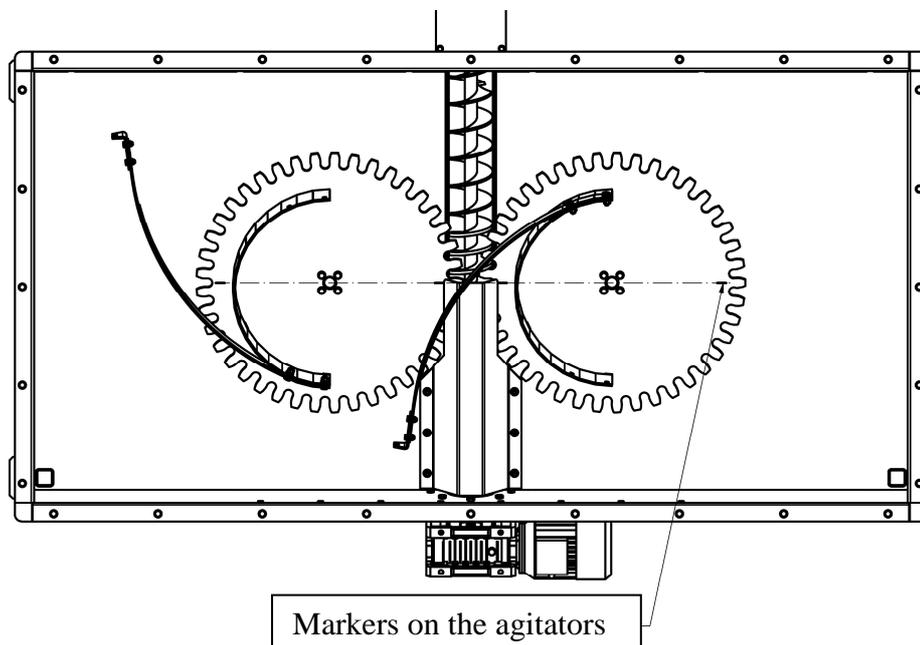

Fig. 2.1 Placement of agitators in the container, sets up to 120 kW.
- a. In sets up to 120 kW, the agitators should be placed so that the markers on the agitators form are lined and the spring arms are placed like in fig. 2.1.